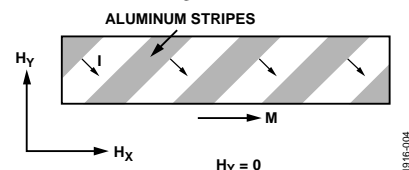

Figure 4. Barber Pole Effect in a Permalloy Strip
A common method used to improve both the linearity and polar insensitivity of the permalloy strip is to add aluminum stripes angled at 45° to the strip axis called barber poles, as shown in Figure 4. Any current flowing between barber poles takes the shortest path—the perpendicular path, and the angle between the current flow vector (I) and magnetization vector (M) shifts by 45° .